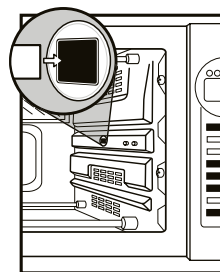

Figure 11
3. Place the round pointed end of Rotisserie Bar into opening on the right side Oven Wall. Place the opposite end of the Rotisserie Bar into the Bracket on the left side Oven Wall. (See Figures 11 and 12.)